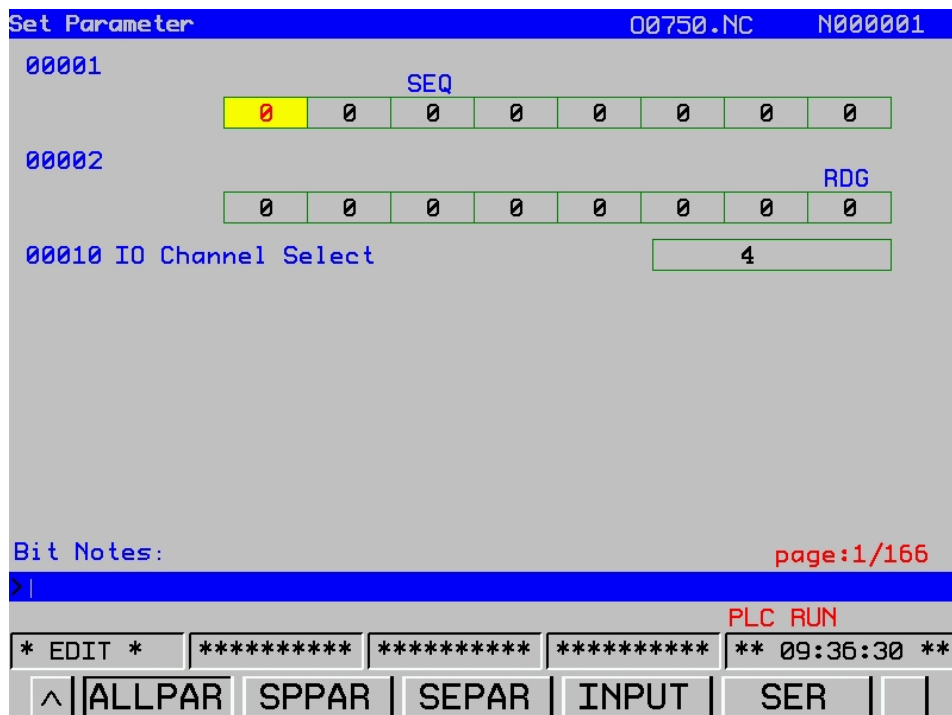

Fig. 3-6-2
3) The parameter interface is displayed by pressing the softkey of **[ALLPAR]**; refer to the Fig.3-6-2.